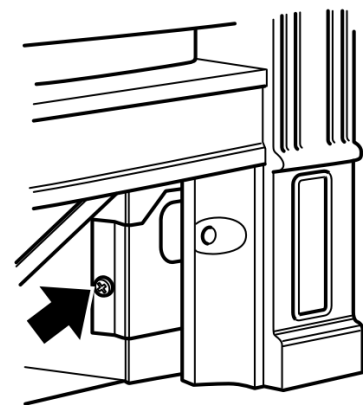

Figure 41. Securing screws (fascia may differ from that shown)
3. Remove the two screws securing the bottom of the fascia to the sides of the hotbox (See figure 41).